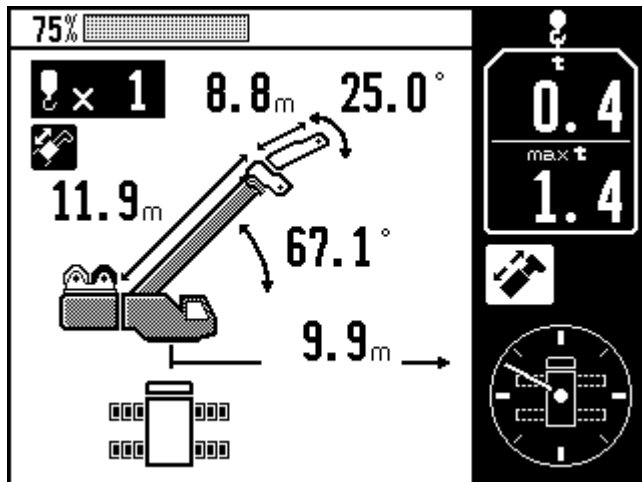
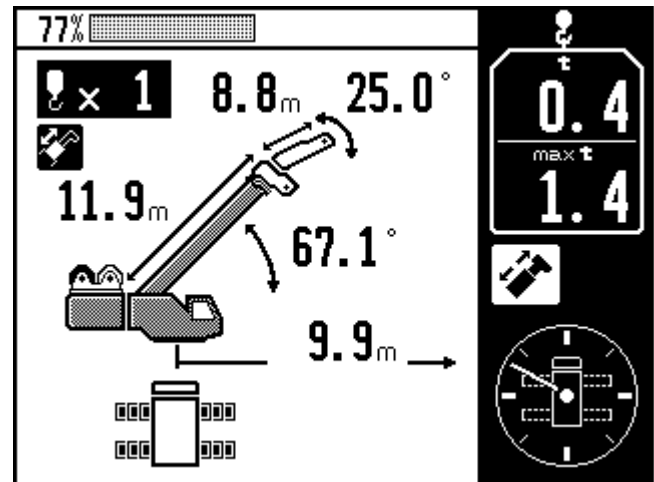

Fig. 7.7.3 Adjusted working status
Fig. 7.7.4 Normal (memorized) working status
(1) Models using user preset menu for winch position change
- Winch drum position icon display to normal operation status screen (Fig. 7.7.3, Fig. 7.7.4)